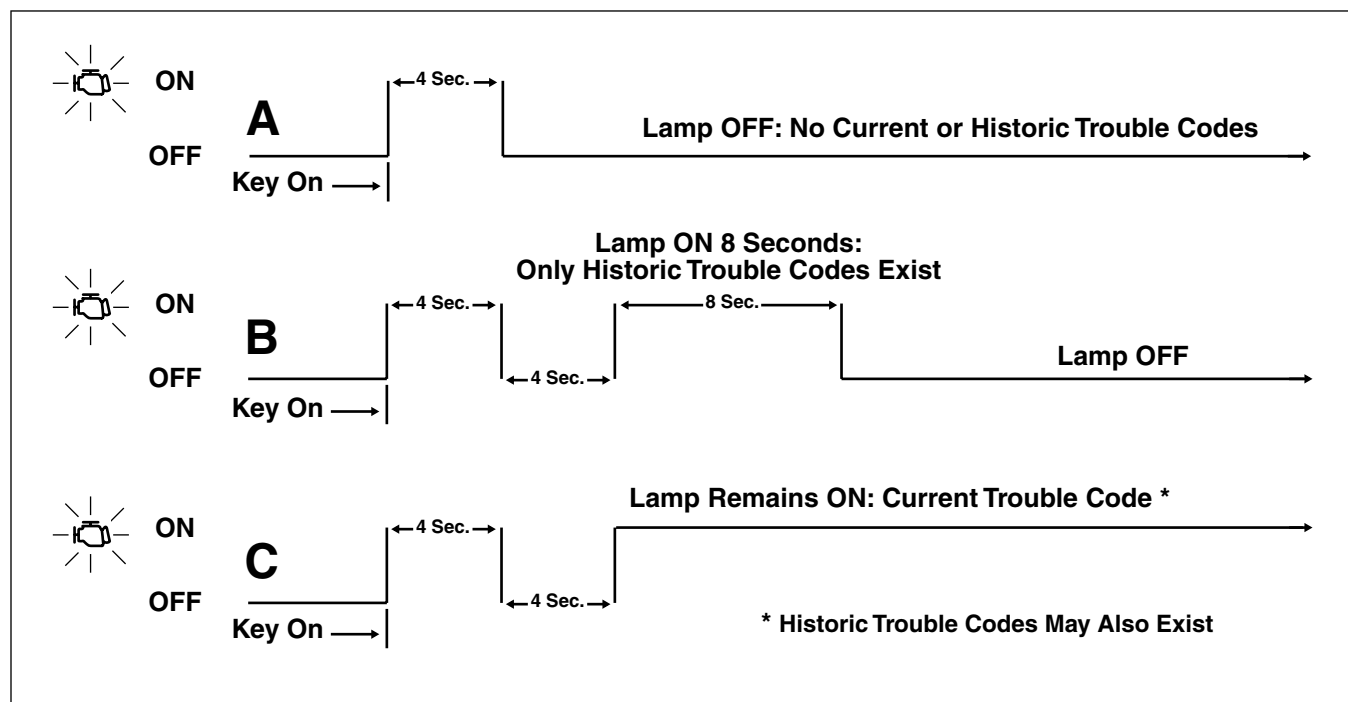

Figure 4-4. Check Engine Lamp Operation
- a. Remain off if there are no fault conditions or trouble codes currently detected by the ICM. See A of Figure 4-4.
- b. Come back on for an 8 second period if only historic codes exist. See B of Figure 4-4.
- c. Come back on, and remain on, if a current trouble code exists. See C of Figure 4-4.